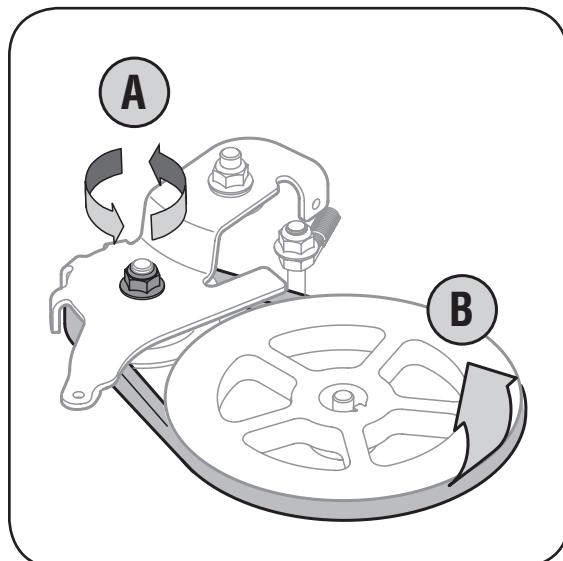

Figure 6-2: Loosen the nut to remove the belt.
- Loosen the lock nut shown in Step A Figure 6-2.
- Unloop the belt from the pulleys, Step B Figure 6-2.